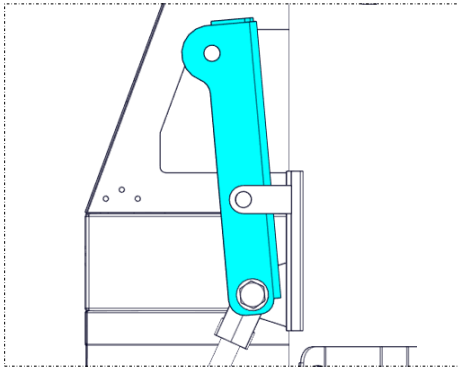

Figure 4.16
- 5) Fold the transport lock up along the discharge auger tube, lining up the holes in the middle of the transport lock with the tabs on the discharge auger tube (Figure 4.16).